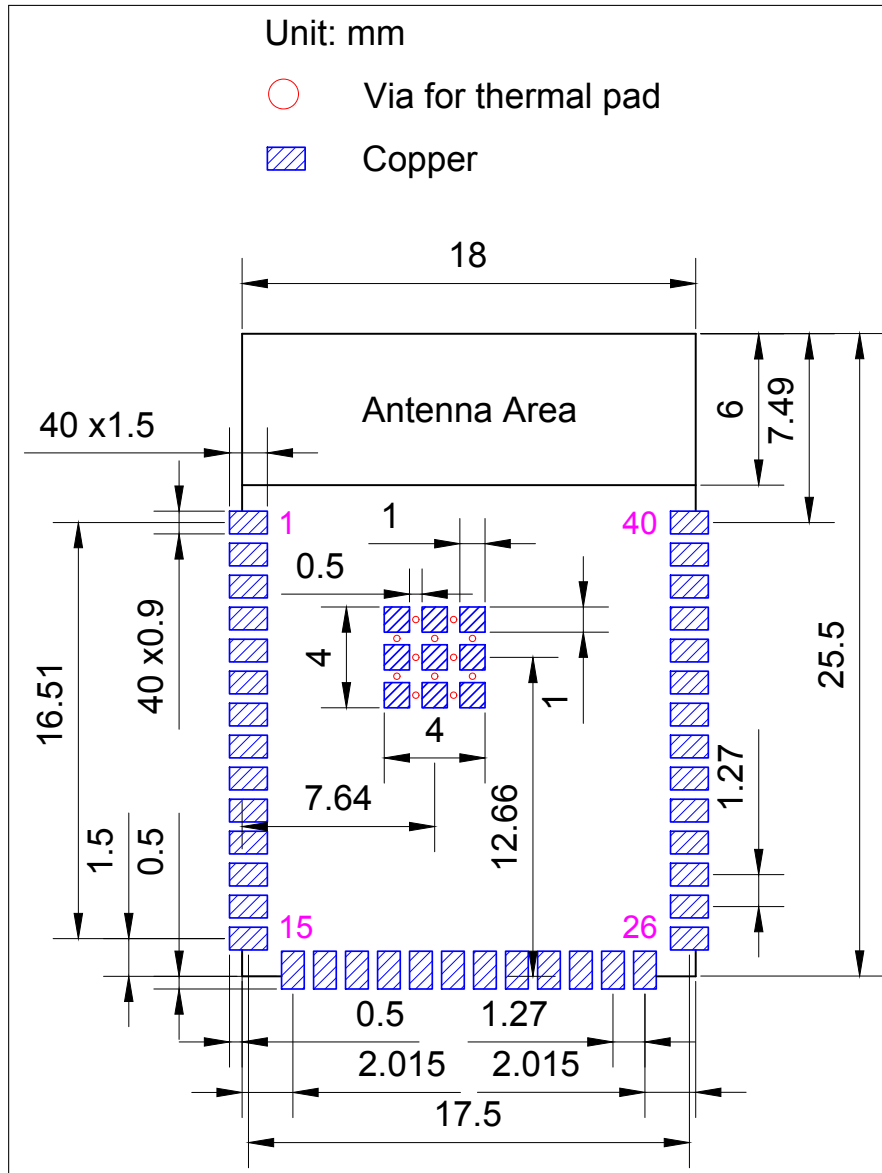

Figure 7: ESP32-S3-WROOM-2 Recommended PCB Land Pattern
- Figure for recommended PCB land pattern with all the dimensions needed for PCB design. See Figure 7 ESP32-S3-WROOM-2 Recommended PCB Land Pattern.
- Source file of recommended PCB land pattern to measure dimensions not covered in Figure 7. You can view the source files for ESP32-S3-WROOM-2 with Autodesk Viewer.